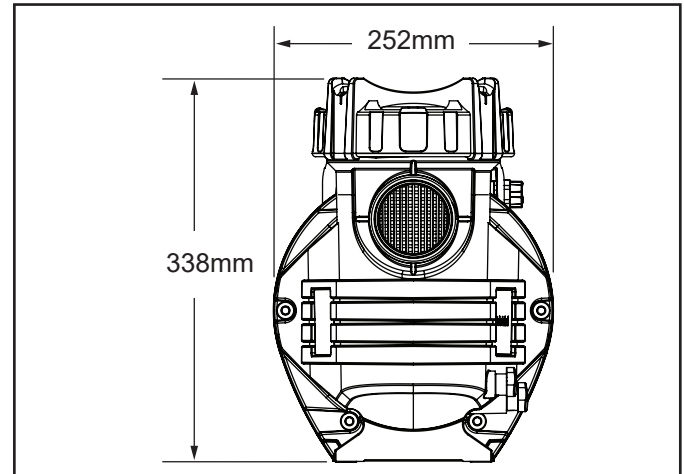

Figure 1. Front Dimensions
**SUCTION HAZARD.** Can cause serious injury or death. Do not use this pump for wading pools, shallow pools, or spas containing bottom drains, unless pump is connected to at least two (2) functioning suction outlets.
**Number of Suction Outlets Per Pump** - Provide at least two (2) hydraulically-balanced suction outlets, with covers, as suction outlets for each circulating pump suction line. The centers of the suction outlets (suction outlets) on any one (1) suction line must be at least three (3) feet apart, centre to centre. See Figure 1.
The system **must** be built to include at least two (2) suction outlets (drains) connected to the pump whenever the pump is running. However, if two (2) suction outlets run into a single suction line, the single suction line may be equipped with a valve that will shut off both suction outlets from the pump. The system shall be constructed such that it shall not allow for separate or independent shutoff or isolation of each drain. See Figure 1.